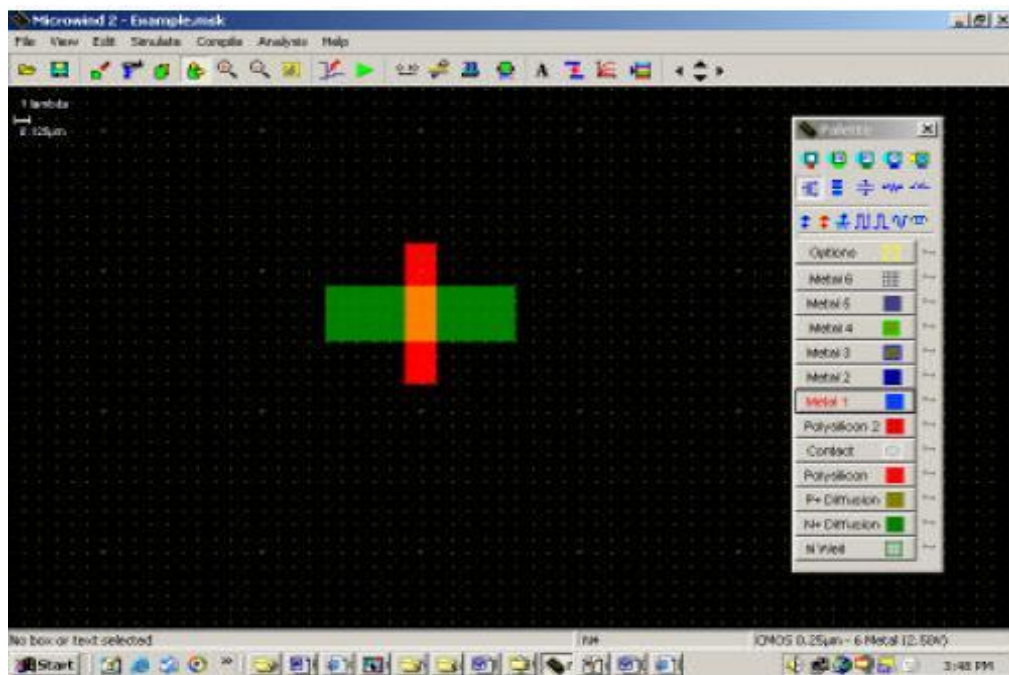

Figure 9: Polysilicon drawn on N+ diffusion
4. Draw “polysilicon” having length of 0.25□□in the middle of N+ diffusion. It acts as a Gate of NMOS transistor shown in figure 9.